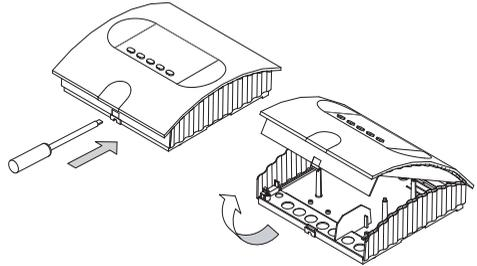

Fig. 1
1. Remove the cover of the control unit. To do this press the fastening tab inwards with a flat screwdriver and remove the housing top by pivoting it upwards (fig. 1).